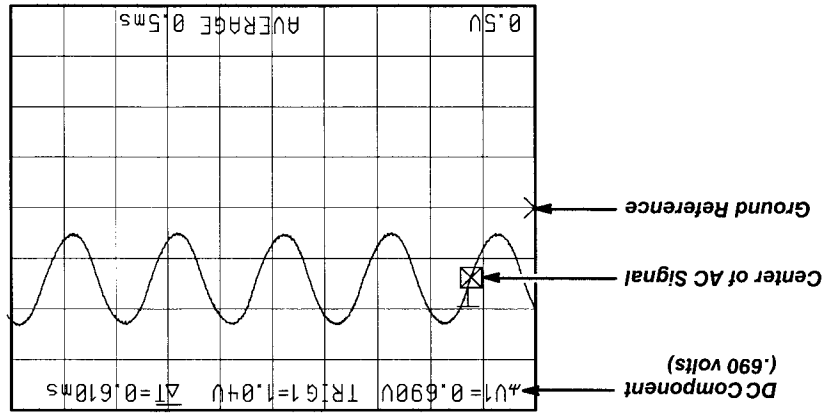
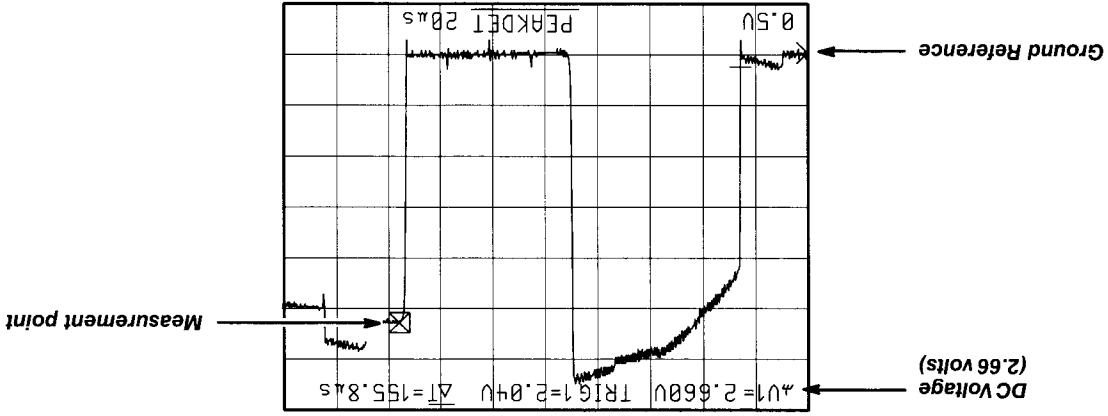

Figure 3-32: DC Component of AC signal
Figure 3-33: Ground-Referenced Voltage Measurement
- Step 4:** Move one of the cursors over to the left side of the display. When this cursor aligns with the ground reference dot the  $\Delta$  symbol next to the volts readout changes to a ground symbol (Figure 3-32 and Figure 3-33).
When a signal is DC coupled at the input, you can measure DC voltage levels, DC components of an AC signal (Figure 3-32), or other voltage levels in reference to ground (Figure 3-33). The procedure varies slightly depending on whether you use graticule lines or cursors to measure the DC level.